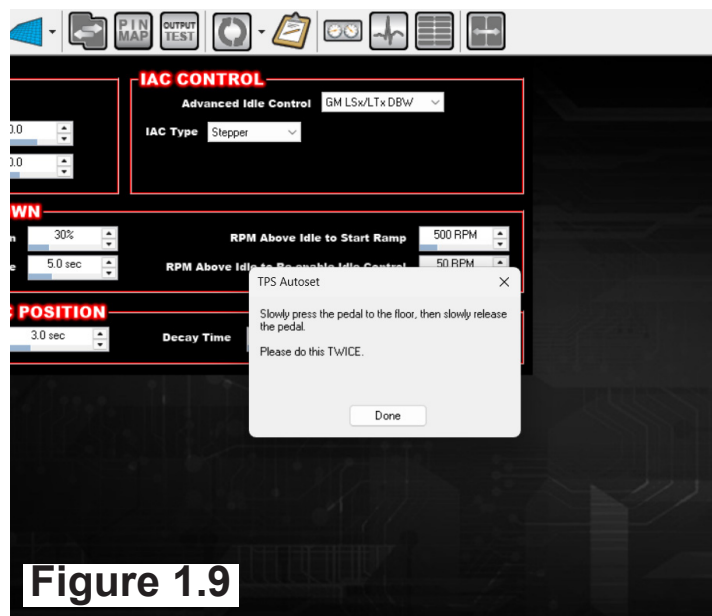

Figure 1.9
- 5.) Slowly depress the accelerator pedal until it reaches the floor, then slowly release it. Repeat this procedure one additional time for a total of two complete pedal cycles. (Figure 1.9)